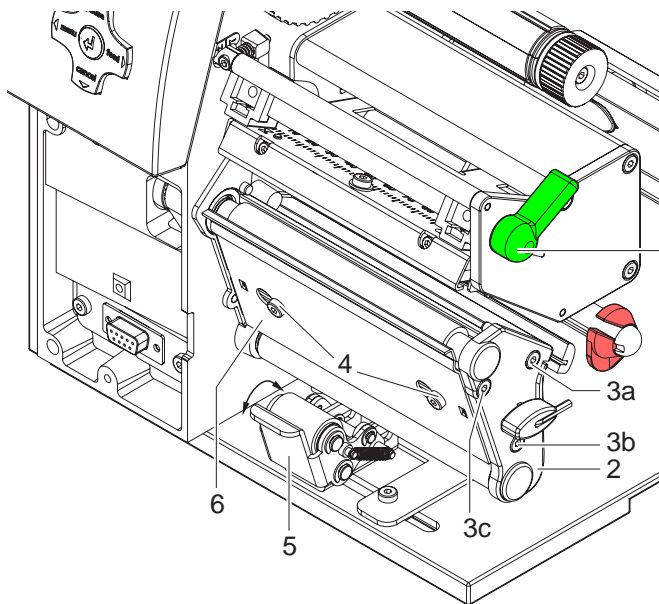

Fig. 19: Removing the side plate
1. Pull print roller (7) and rewind assist roller (8) from the shafts (9, 10) on the housing.
2. Clean shafts (9, 10) of the rollers (see expanded view at shaft (10)).
3. Slide print roller (7) and rewind assist roller (8) onto their respective shafts and turn slightly until the hexagon of the shaft engages in the hexagon socket of the print roller.
4. Set side plate (Item 2, Fig. 19) in place and screw it down with the screws (Items 3abc, Fig. 19) by tightening the screws in order, i.e. a, b then c.
5. Set plate (Item 6, Fig. 19) in place and tighten screws (Item 4, Fig. 19) with hexagonal wrench.